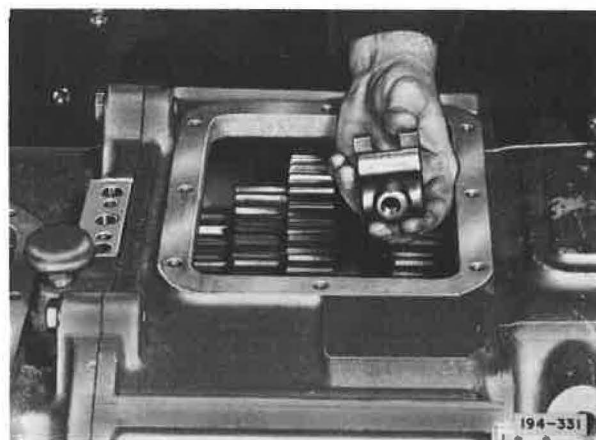

Figure 5-58. Installing First and Reverse Shifter
24. Install first and reverse speed shifter rail through front of case and first and reverse speed shifter. See Figure 5-58. Advance rail through intermediate bore of case, first speed fork, front snap ring, reverse speed fork and rear snap ring until rail reaches neutral position. Install fork and shifter setscrews and tighten to recommended torque.